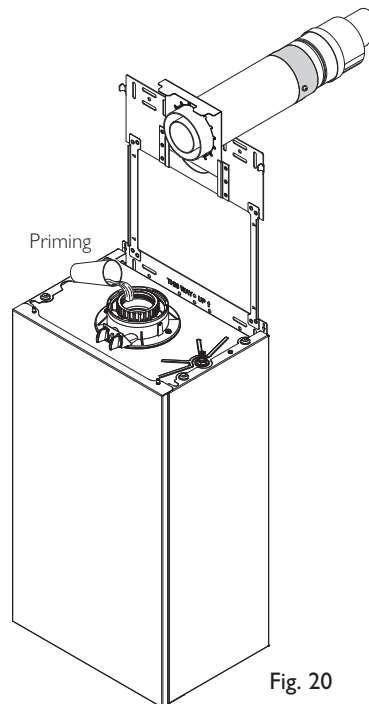

Fig. 20
4. Insert the flue into the  $\text{\O}150$  mm hole and secure the frame assembly to the wall, ensuring the flue is uppermost in the hole by pushing up the sliding collar: Hang the boiler on the lower plate (Fig. 20). Prime the boiler trap by pouring 300 ml of clean cold water into the central spigot. **Do not allow any water to spill into the air chamber.**